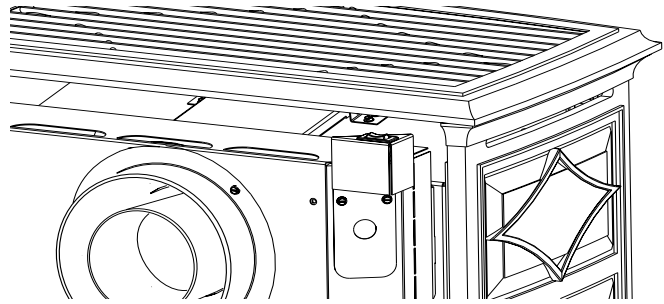

Figure 32. Burner Control Switch location.
1. Once the pilot is lit, burner operation is controlled by the rocker switch located at the left rear corner of the stove. Use the T-STAT position for the optional thermostatic or remote control functions. See fig. 32.